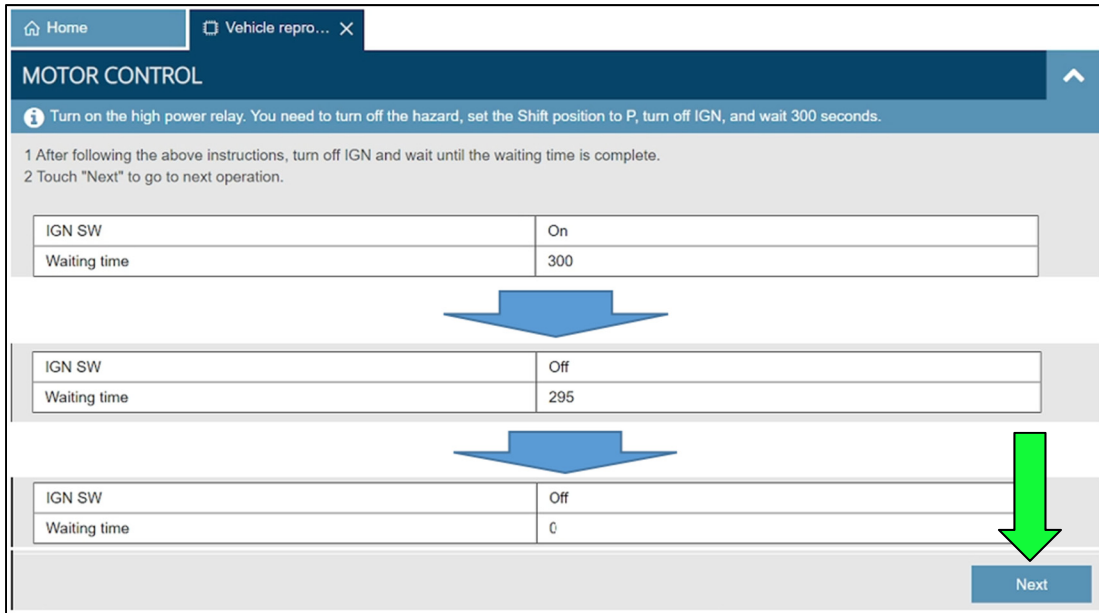
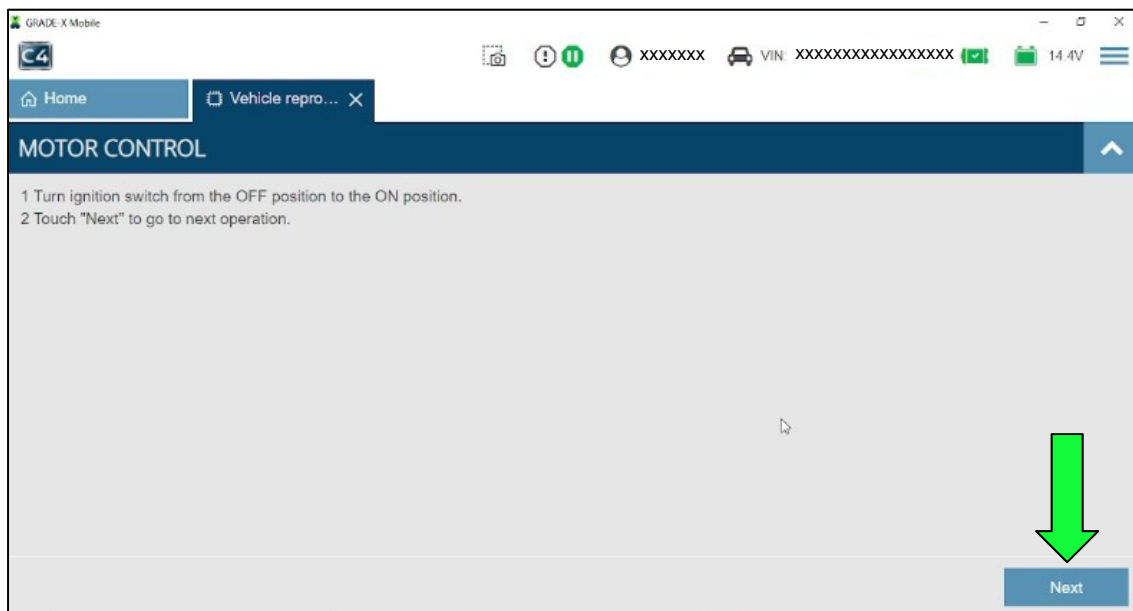

Figure 19
Figure 20
**IMPORTANT:** The screens in Figure 19 and Figure 20 will NOT display when reprogramming REAR MOTOR CONTROL on AWD vehicles.
25. Press the power switch one (1) time, to turn the ignition “Off”.